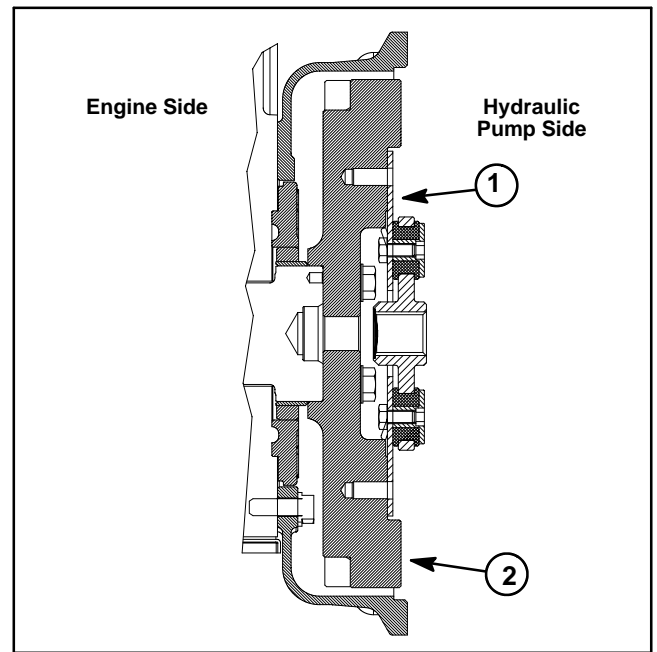

Figure 19
1. Position spring coupler to engine flywheel and align mounting holes. Make sure that coupling hub is away from engine flywheel (Fig. 19).
2. Apply Loctite #242 (or equivalent) to threads of cap screws (item 3). Secure coupler to flywheel with six (6) cap screws and washers. Torque cap screws in a crossing pattern from **29 to 33 ft-lb (40 to 44 N-m)**.
3. Apply Loctite #242 (or equivalent) to threads of cap screws (items 5 and 7) used to secure flywheel plate to engine. Position flywheel plate to engine and engine mounts. Secure flywheel plate and mounts with cap screws (items 5 and 7) and washers using a crossing pattern tightening procedure. Torque cap screws in a crossing pattern from **28 to 32 ft-lb (38 to 43 N-m)**.